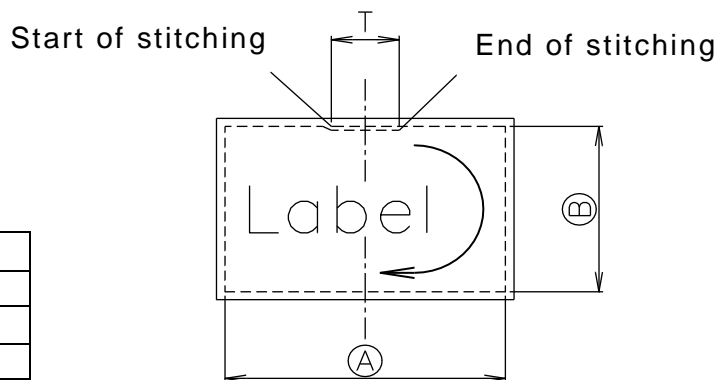

Fig. 1
(2) Stitching material thickness: 4mm or less
(3) Superimposed stitching length (Fig. 1 T dimension) ... 12mm or less
(4) Restrictions
Input the stitching data in a clockwise direction (direction of bold arrow in Fig. 1). The entire periphery cannot be stitched when the data is input in the reverse direction (counterclockwise direction).
Refer to the pattern in Fig. 1, and set points A to G